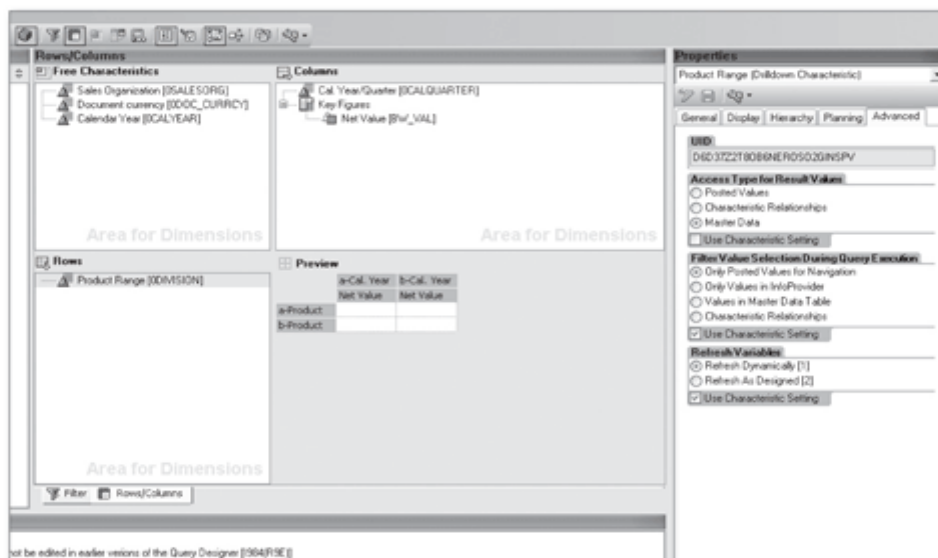

Figure 12.77 Characteristic Properties for Planning
6. Also, you can define some additional settings for the characteristics involved in the query definition. For example, if you want to list all of the possible values of product range in the default view of the query, you set the ACCESS TYPE OF RESULT VALUES property for the product range characteristic as Master Data (Figure 12.77).